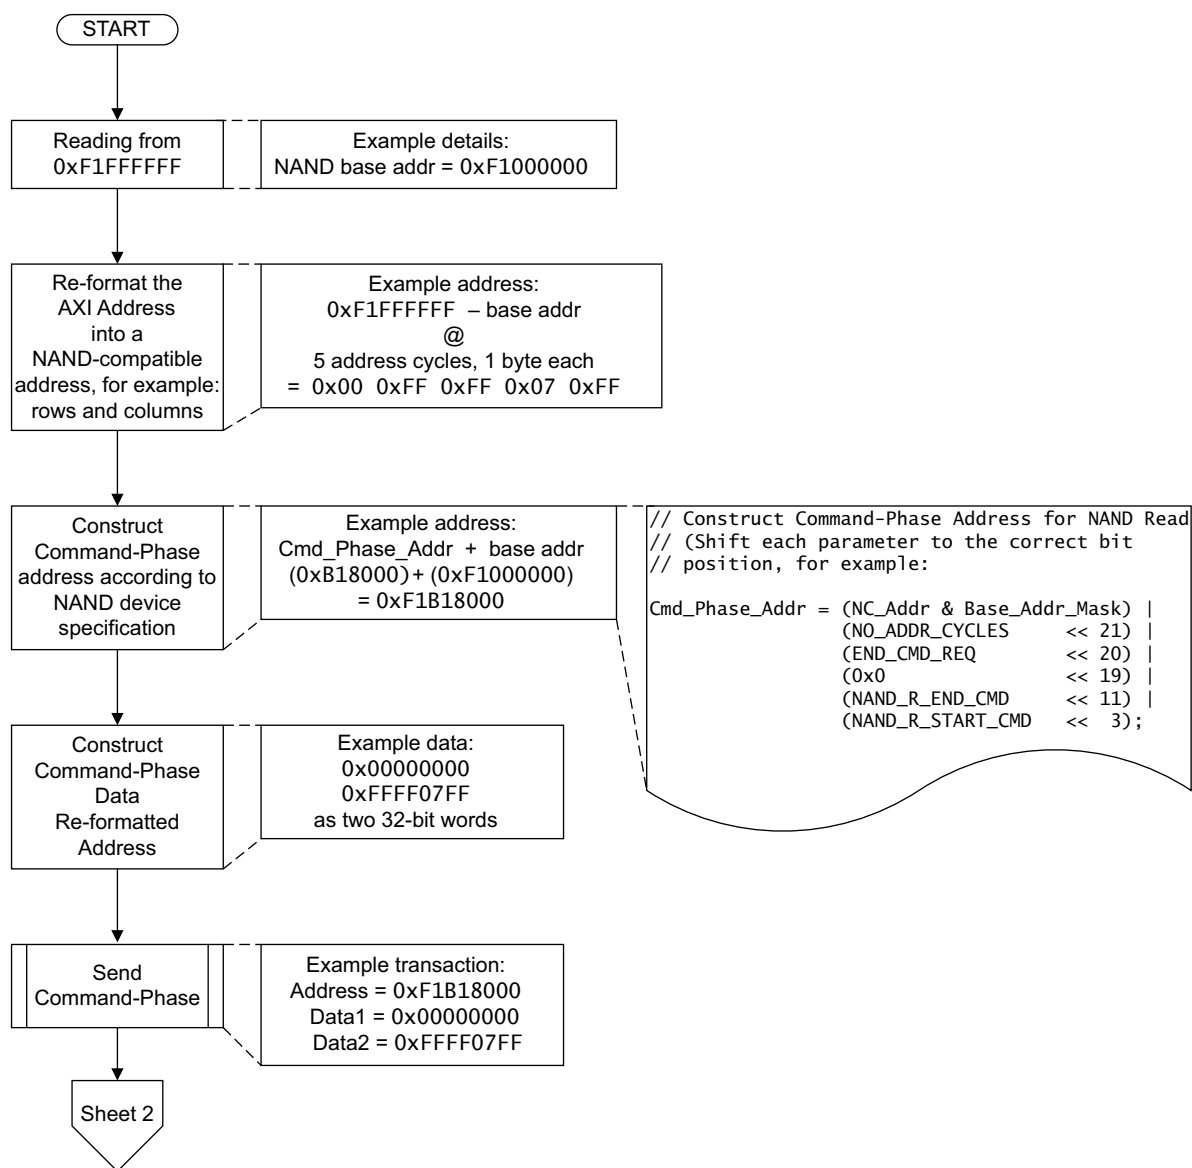
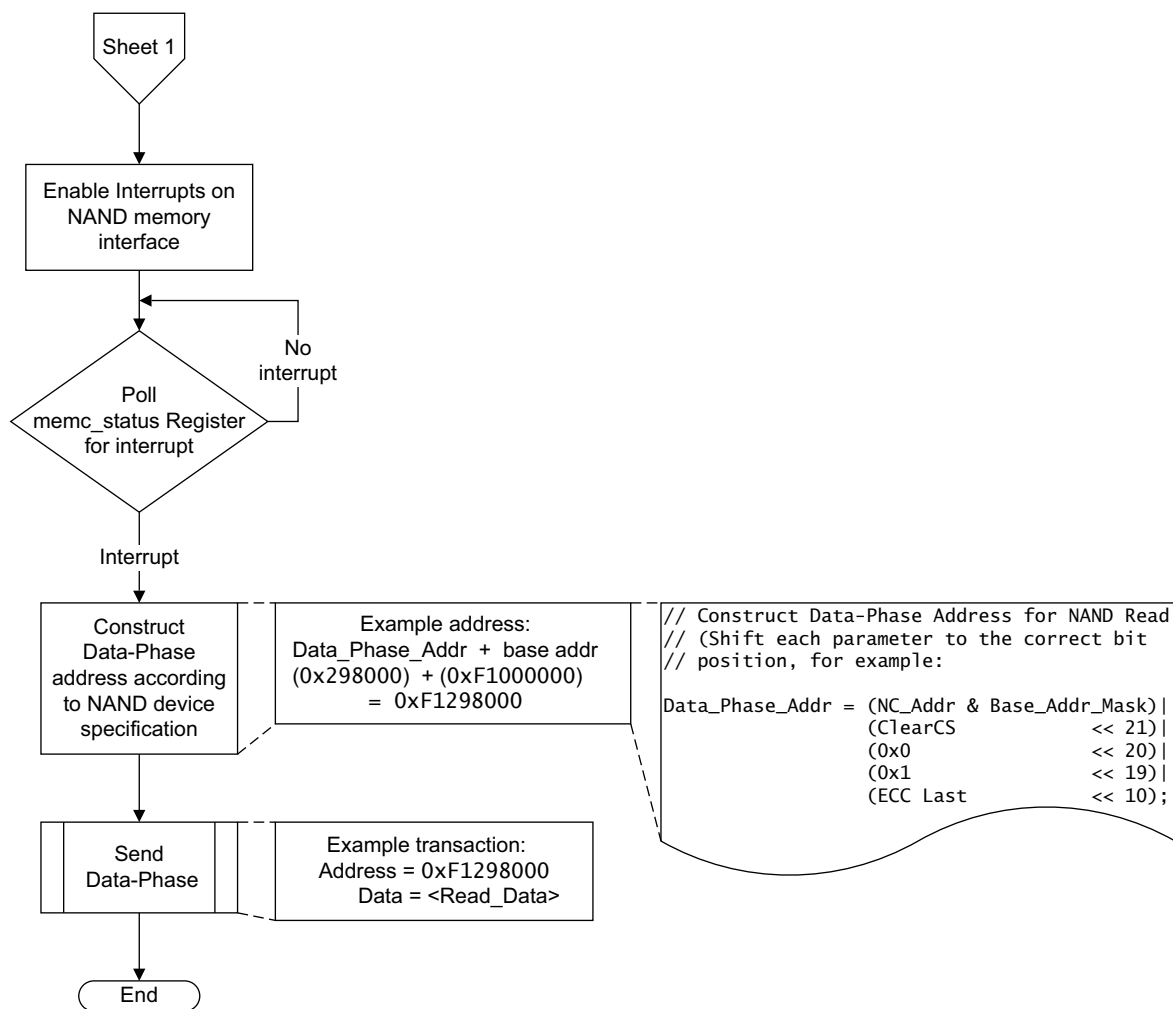

Figure 5-3 NAND read sheet 1 of 2
Figure 5-4 NAND read sheet 2 of 2
- Figure 5-3 to Figure 5-4 on page 5-5